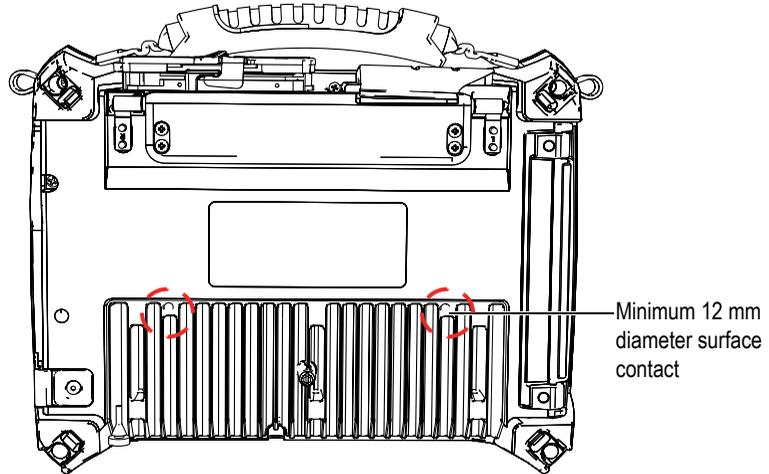

Figure 2-9 Surface contact requirements
- Make sure that there is at least a 12 mm diameter surface contact area (see Figure 2-9 on page 35) between the OmniScan SX and the supporting surface.